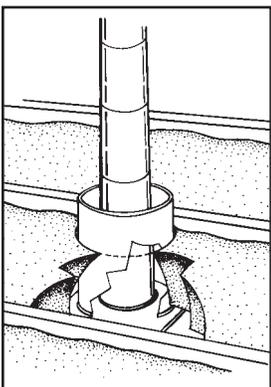

Figure 3
- Do not cover or hand pack insulation around bare stove pipes, electrical fixtures, motors, or any heat-producing equipment such as recessed lighting fixtures (unless they are IC –insulation contact–rated). Keep at least a three-inch space between these materials and insulation (Figure 3). The “Attic bypasses” Home Energy Guide gives detailed instructions on how to seal air leaks around these fixtures.